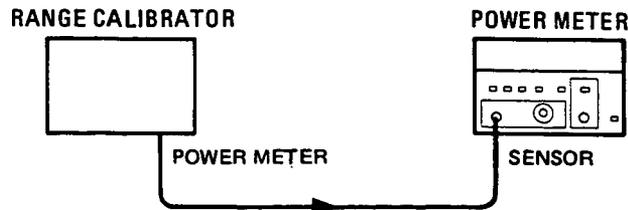

Figure 4-2. Instrument Accuracy Test Setup
- Connect the equipment as shown in Figure 4-2.